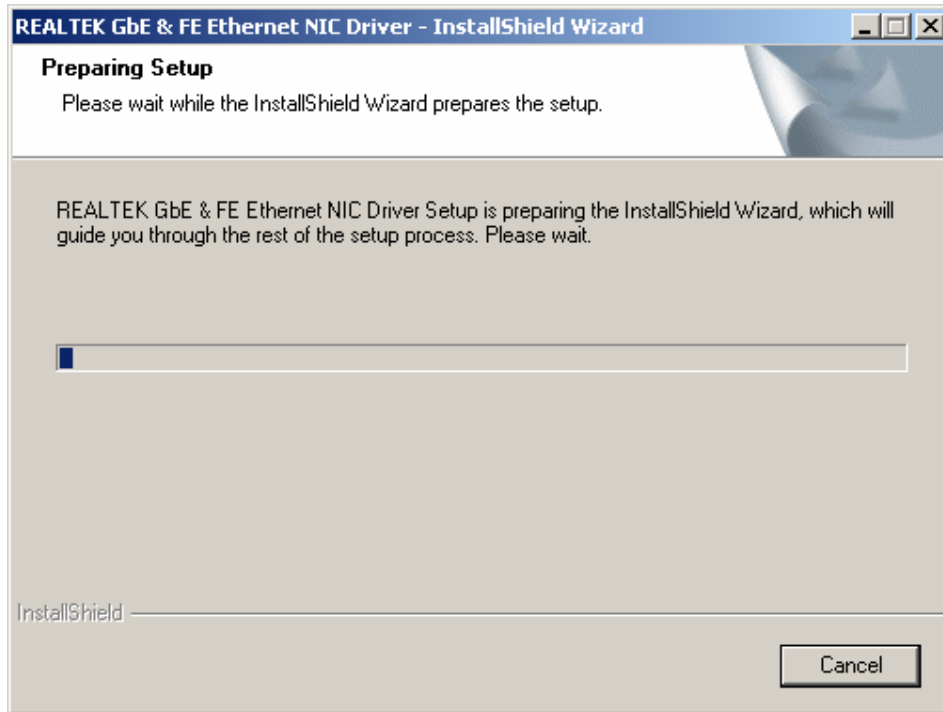

Figure 6-15: Realtek LAN Driver InstallShield Wizard
Step 1: Insert the Utility CD that came with the CPU card into the system CD drive. Open the X:\4-LAN\Realtek\ directory (where X:\ is the system CD drive) and double-click the setup.exe installation file to initiate the InstallShield Wizard (Figure 6-15).